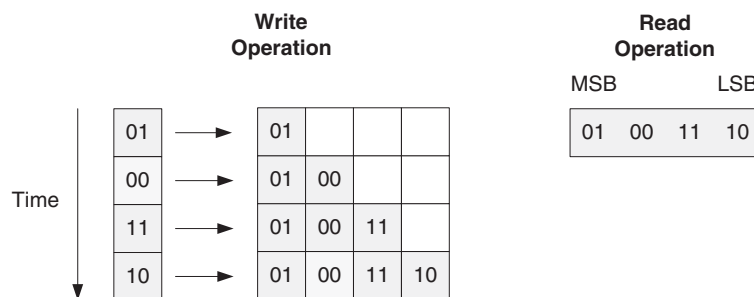
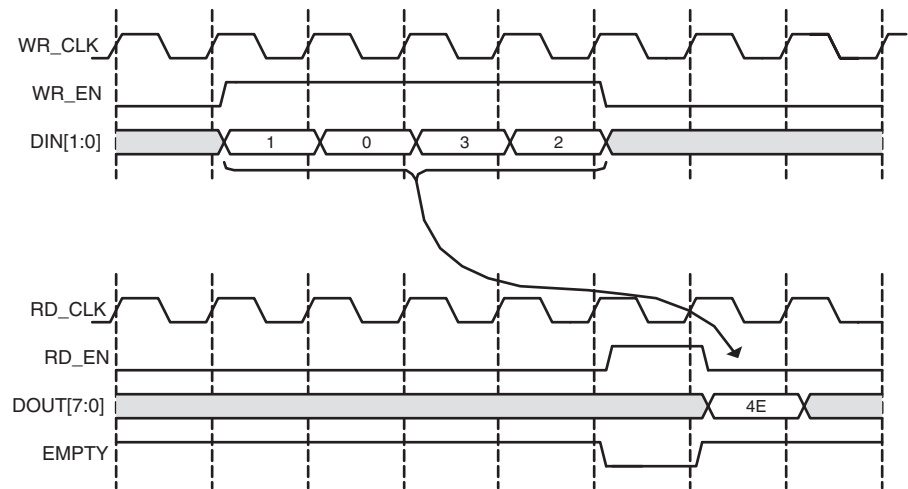

Figure 4-17: 1:4 Aspect Ratio: Data Ordering
Figure 4-18: 1:4 Aspect Ratio: Status Flag Behavior
**Note:** For non-symmetric aspect ratios where the write width is smaller than the read width (1:8, 1:4, 1:2), the most significant bits are read first (refer to Figure 4-17 and Figure 4-18).
Figure 4-17 is an example of a FIFO with a 1:4 aspect ratio (write width = 2, read width = 8). In this figure, four consecutive write operations are performed before a read operation can be performed. The first write operation is 01, followed by 00, 11, and finally 10. The memory is filling up from the left to the right (MSB to LSB). When a read operation is performed, the received data is 01\_00\_11\_10.
Figure 4-18 shows DIN, DOUT and the handshaking signals for a FIFO with a 1:4 aspect ratio. After four words are written into the FIFO, EMPTY is deasserted. Then after a single read operation, EMPTY is asserted again.